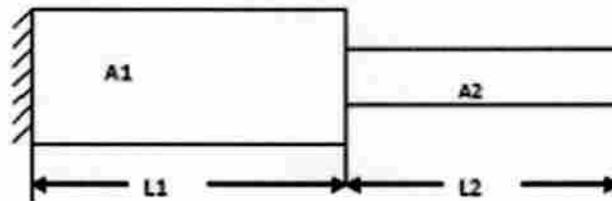

Figure 6
15. A). For the stepped bar shown in the figure 6. Develop the global stiffness and mass matrices and also determine the natural frequencies and mode shapes. Assume $E = 200$ GPa and mass density = 7850 kg/m³, $L_1 = L_2 = 0.3$ m, $A_1 = 350$ mm², $A_2 = 600$ mm². 10M